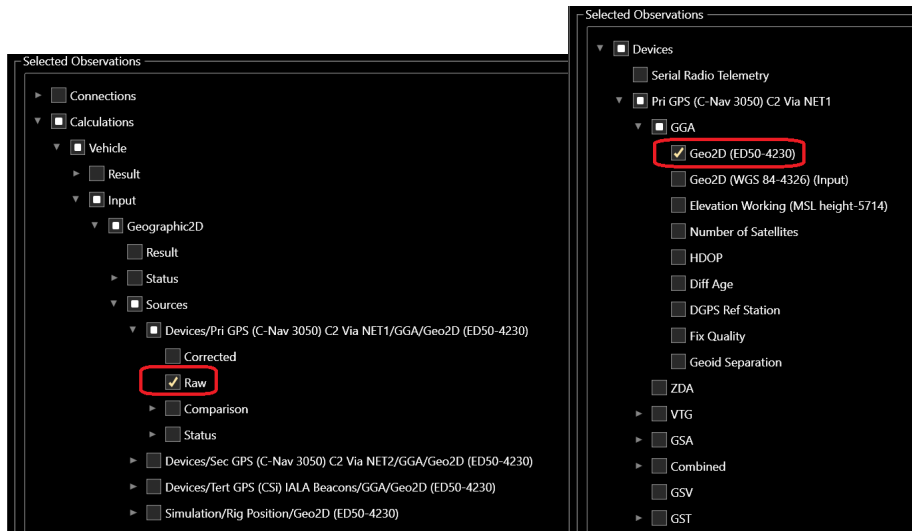

FIGURE 14-67 DATA RECORDING - REDUNDANCIES
**Note:** There are redundancies in the Selected Observations. For example, Figure 14-67 shows the same 2D Geographic observation selected via the Vehicle branch and the Devices branch. However, users are warned not to be overly selective in an attempt to minimize media space when logging data in case the required data is overlooked and not logged.